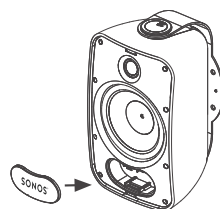

Figure 9: Attach the Connector Cover
7. Fit the wiring connector cover into the recess in the speaker's front panel. The cover should fit tightly, but can be removed if the speaker needs to be disconnected (see figure 9).